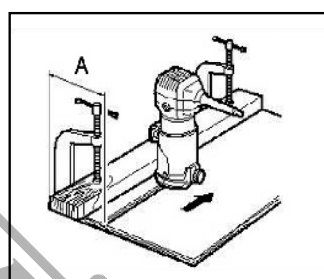

Fig. 15
- If the distance (A) between the side of the workpiece and the cutting position is too wide for the straight guide, or if the side of the workpiece is not straight, the straight guide cannot be used. In this case, firmly clamp a straight board to the workpiece and use it as a guide against the trimmer base.
- Feed the tool in the direction of the arrow. (Fig. 15)